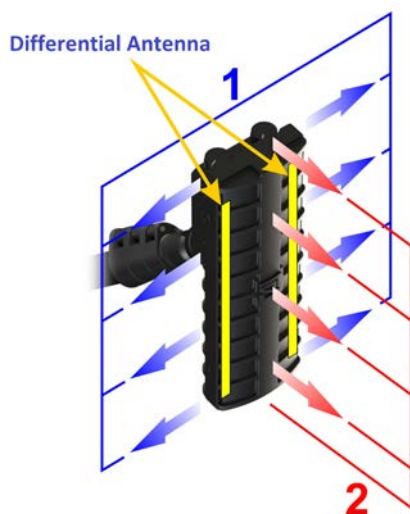
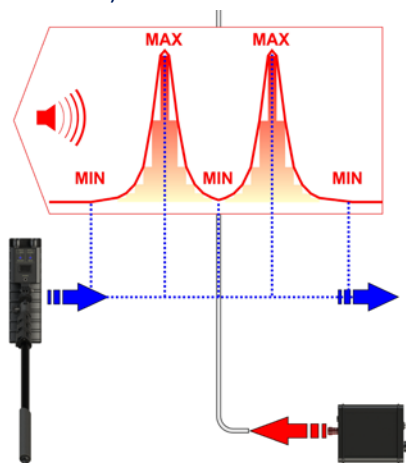
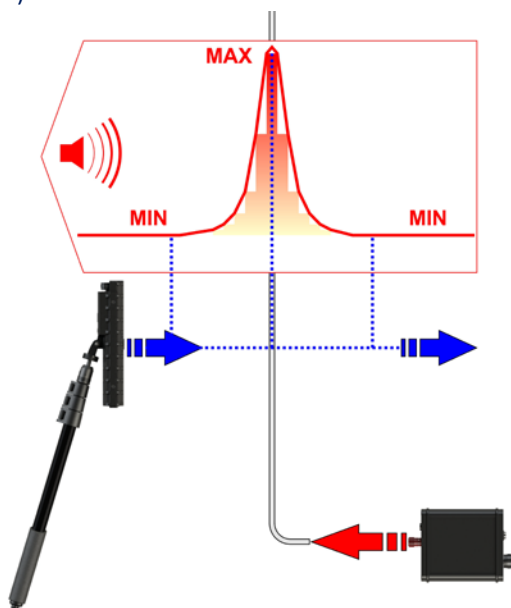

fig.7
fig.8
fig.9
1. Side faces of the main unit are perpendicular to the surface plane (fig.7, direction 1);
2. Front surface of the main unit is parallel to the search plane (fig.7, direction 2).
Fig. 8 shows a diagram of the change in the level of the signal being listened to, when the front surface of the main unit moves parallel to the search plane (fig.7, direction 2).
The cable laid in the place where there is a “MIN” between the two peaks (MAX) of the received test signal (on fig.8).
Fig.9 shows a diagram of the change in the level of the signal being listened when the main unit moves with its side face to the search plane (fig.7, direction 1).